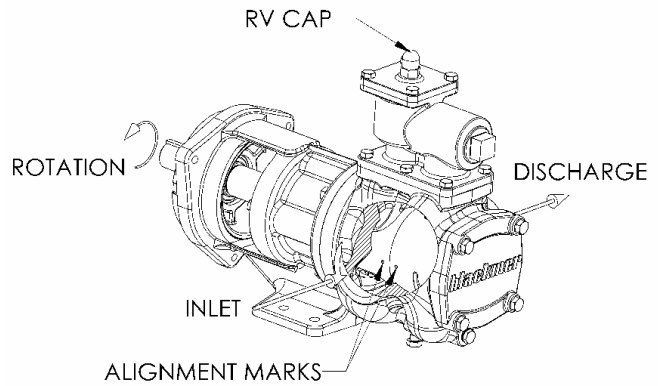

Fig 4 Right Hand (Clockwise) Orientation
A right-hand pump rotates clockwise with the intake on the right side, when viewed from the driven end. See Fig. 4.
4. The pump relief valve cap must be oriented properly to the inlet side of the pump. If pump relief valve is installed improperly, it will not operate and a component failure may result. See Figures 4 and 5.